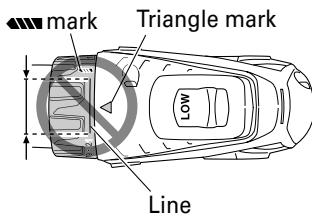

Fig. 10
- **Do not use with the clutch dial set at the line between the number "21" and the drill mark "▲". Doing so may cause damage (See Fig. 10).**